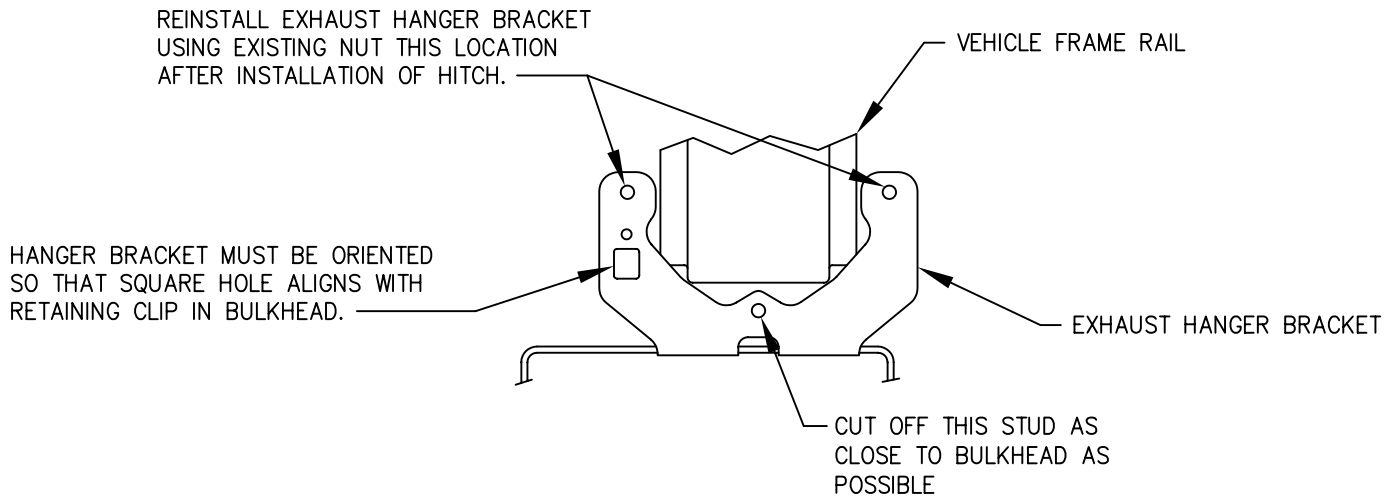

FIGURE 2
4. CAREFULLY CUT OFF LOWER STUD, EACH SIDE, AS CLOSE TO BULKHEAD AS POSSIBLE (SEE FIGURE 2). DO NOT CUT OFF TWO (2) UPPER STUDS.
6. RE-INSTALL EXHAUST HANGER BRACKETS, USING (2) OF THE (3) NUTS REMOVED IN STEP 3, ON (2) UPPER STUDS (SEE FIG. 2). HANGER BRACKET MUST BE ORIENTED SO THAT SQUARE HOLE IN BRACKET ALIGNS WITH RETAINING CLIP IN VEHICLE BULKHEAD.